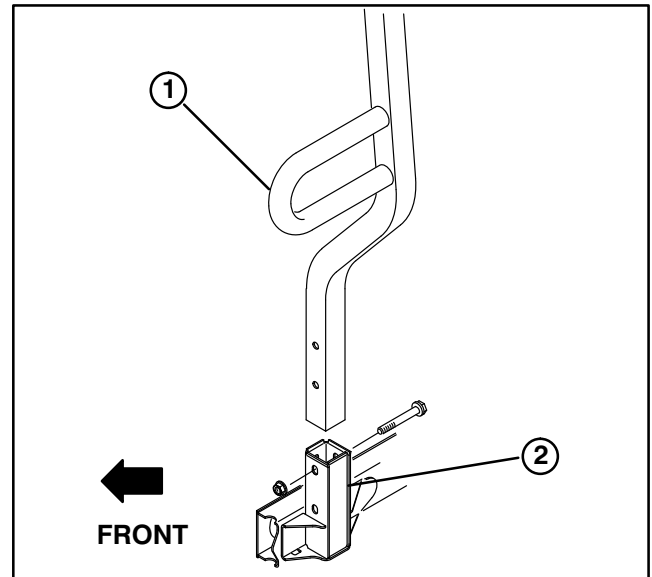

Figure 10
INSTALL ROPS (Fig. 10)
1. Insert each side of ROPS into mounting bracket on each side of vehicle frame, positioning ROPS as shown in figure 10.
2. Secure each side of ROPS to mounting brackets with (2) 1/2-13 x 3" lg. capscrews and locknuts.